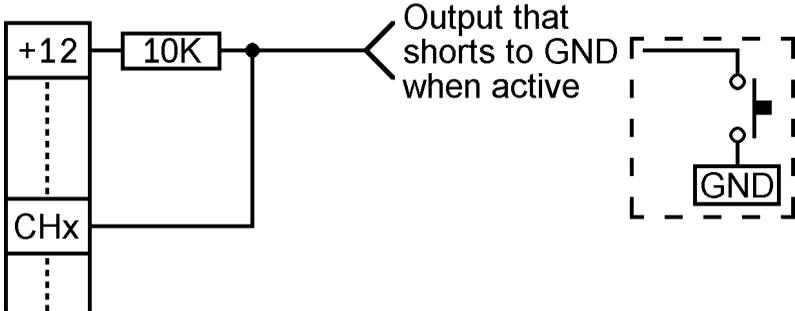

Figure 3: Connecting an output that drives low to the DT6I/S.
Figure 3: Connecting an output that drives low to the DT6I/S.....	7
- CH1 - CH5**    These are the inputs for alarm channels 1 to 5. Each input is held low via an internal pull down resistor to GND. An input can be put into its alarm state by either applying voltage to it or removing voltage from it, depending upon the configuration of the input’s polarity (for further information on input polarity refer to the *INPUT POLARITY AND MODE OF OPERATION* section on page 15). To trigger an input from a source that only drives low (eg. an Open Collector output or a normally open switch to GND) the input will have to be pulled up to the positive voltage rail via a 10K resistor as shown in Figure 3 below [default requires +5 to 15V DC to trigger].